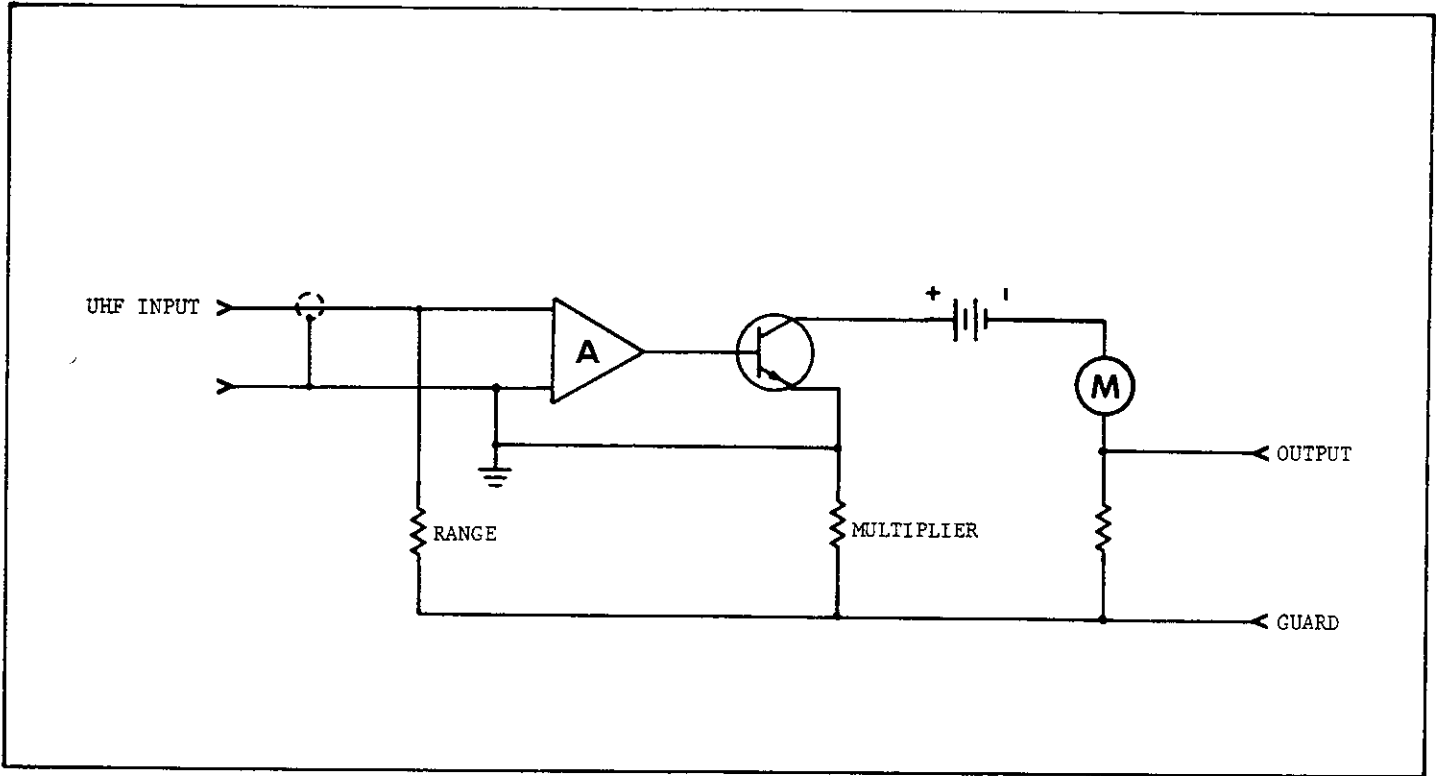

FIGURE 11. Ammeter Configuration, FAST Mode.
a. Normal Method. In the normal method of current measurements (FEEDBACK Switch in NORMAL position), one of the Range Switch resistors, R102 through R112, shunts the input. (See Figure 11). The Model 610C then measures the voltage drop across the resistor. The meter is calibrated to read the current in amperes for the appropriate range.
b. Fast Method. In the fast method of current measurements (FEEDBACK Switch in FAST position), the Model 610C functions as an ammeter with negative feedback. The differential amplifier output is divided by the Multiplier Switch resistors, R165 to R175, and fed back to the amplifier input through a feedback resistor selected with the Range Switch. (See Figure 11). Floating ground is connected to the low impedance side of the input, and the output ground is floating. This method increases the response speed by minimizing the effects of input capacity; it also reduces the input drop to less than 100 microvolts.
3-6. COULOMB METER OPERATION. The Model 610C circuit for measuring charge is similar to that used for an ammeter with the fast method. A negative feedback is applied around a shunt capacitor, C108 to C111, selected with the Range Switch. The shunt capacitor replaces  $R_s$  in Figure 11. The stored charge is proportional to the voltage across the capacitor, which is measured by the Model 610C voltmeter circuits.